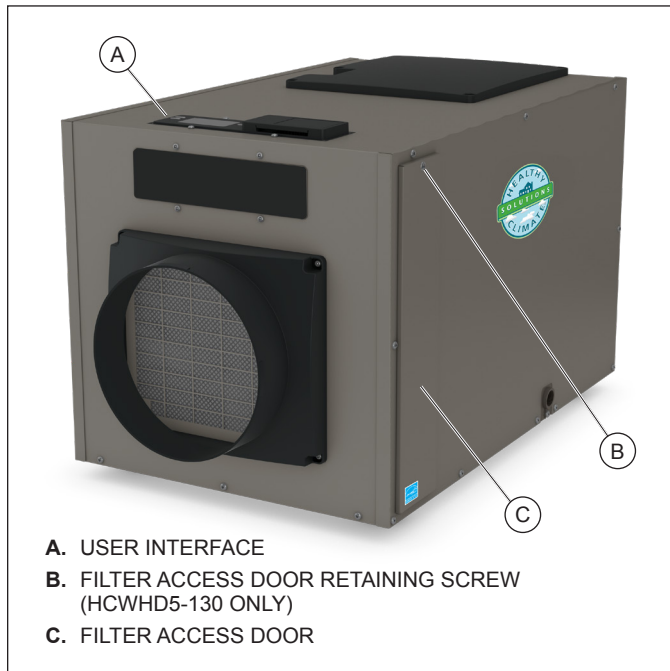

Figure 1: Exterior Components of the Dehumidifier (Model HCWHD5-130 shown)
2. Remove the filter access door (see **Figure 1**) from the drain side of the dehumidifier by unscrewing the retaining screw (HCWHD5-130) or pulling on the handle (HCWHD5-080 and HCWHD5-100).